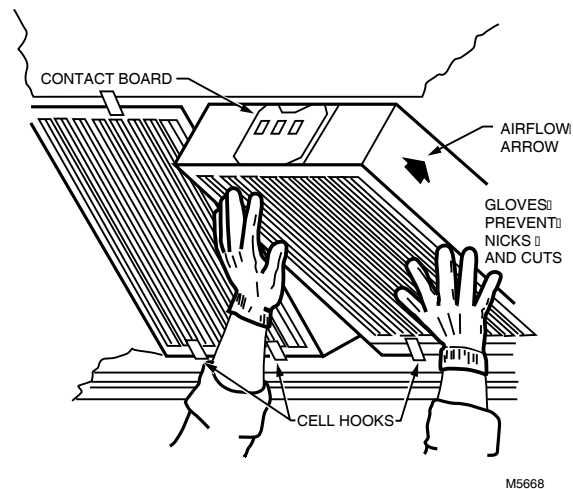

Fig. 14. Reinstalling the cell.
- With one hand supporting the cell near the latch, rotate the latch to a closed position. See Fig. 14.